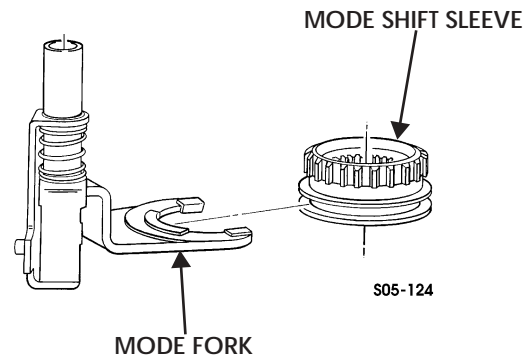

Figure 5-177: Shift Fork and Sleeve
15. Place intermediate shaft over main shaft and engage in mainshaft gear (inside differential assembly). Double groove of intermediate shaft is up (Figure 5-177).
18. Hold mode shift sleeve and mode fork together, slide sleeve over intermediate shaft, and engage in differential assembly (Figure 5-177).